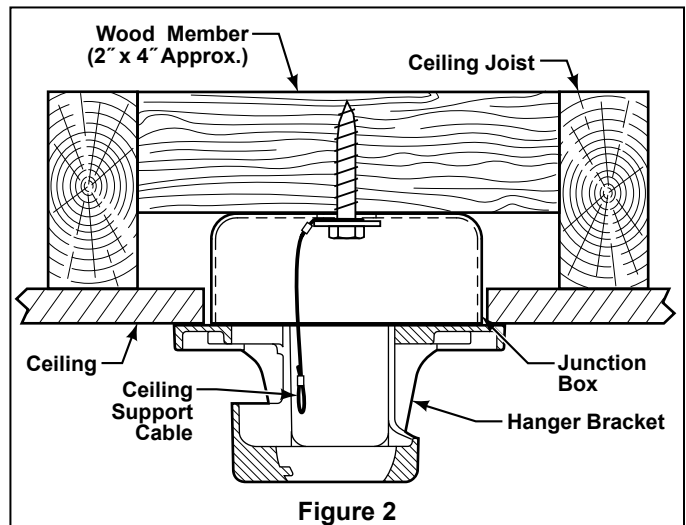

Figure 2
3. Assemble one Collar with allen wrench provided, as shown (Figure 2).
5. Loosen the two setscrews in the Downrod Support. Align the Clevis Pin holes in the Downrod with the holes in the Downrod Support. Install the Clevis Pin and secure with the Hairpin Clip. (Figure 2) Be sure to push the straight leg of the hairpin clip through the hole near the end of the clevis pin until the curved portion of the hairpin clip snaps around the clevis pin. The hairpin clip must be properly installed to prevent the clevis pin from working loose. Pull on the Downrod to make sure the clevis pin is properly installed. (Figure 2)
6. While pulling up on the hanger ball, securely tighten the two 3/16-24 x 3/8" setscrews in the downrod support. (Figure 2)
1. Using the $\frac{3}{8}$ " x 2" lag bolt and flat washer, attach safety cable to ceiling joist or wood structural member. The lag bolt will pass through the flat washer, safety cable loop, the junction box and into the building structure (Figure 2). You will first drill a $\frac{1}{4}$ " pilot hole into the building structure to prevent splitting or cracking.
NOTE: Ceiling support cable cannot be secured to junction box only, it must be directly secured to ceiling joist or structural member using the $\frac{3}{8}$ " x 2" lag bolt and flat washer. (Figure 2).
2. Wiring & Connecting Your Ceiling Fan: (Figure 2)
2. Securely attach the Canopy Housing to the Hanger Bracket using the external lock washers and knurled knobs supplied with your fan (Figure 2).
4. Attach assembled blades and blade holders to the motor hub using the provided screws. (Figure 2)
2. Install the assembled switch cup cover (align the two orange dots) using two flat head screws provided. (Figure 2).